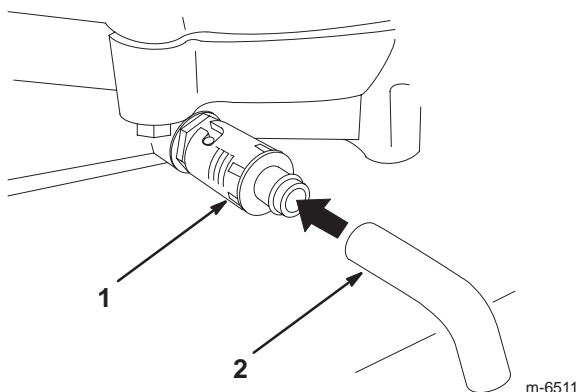

Figure 25
5. Place a pan below the drain hose. Rotate the drain valve to allow the oil to drain (Fig. 25).
6. When the oil has drained completely, close the oil drain valve and remove the drain hose (Fig. 25).